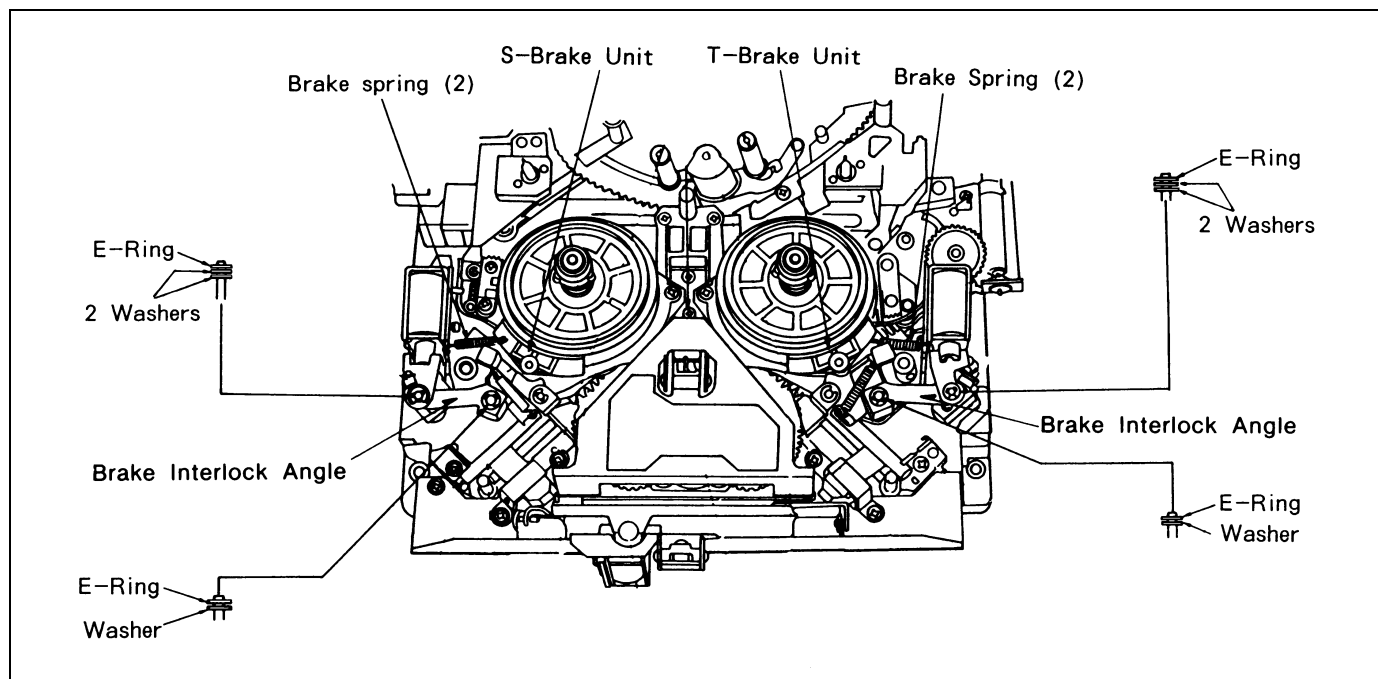

Figure 7-5-1 Removal of the S-Brake Solenoid and the T-Brake Solenoid
3. Remove 6 soldering portions, 2 Brake Spring (2) and 4 screws (A), then pull out S-Brake Solenoid and T-Brake Solenoid as shown in Figure 7-5-1.